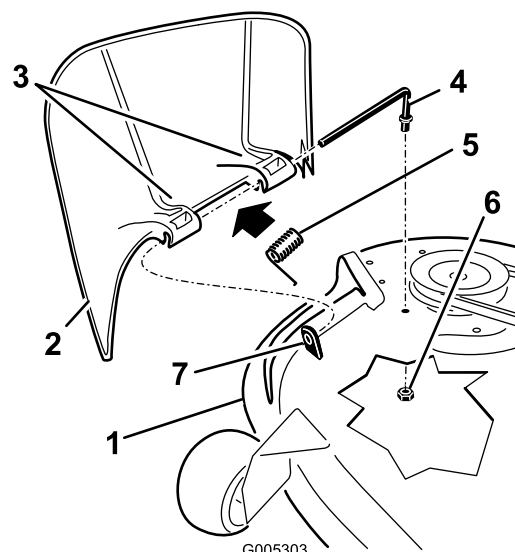

Figure 59
1. Locate items shown in Figure 59.
2. Remove the nut (9.5 mm; 3/8 inch) from the rod under the mower (Figure 59).
3. Slide the rod out of the short stand-off, spring, and grass deflector (Figure 59). Remove the damaged or worn grass deflector.
4. Replace the grass deflector (Figure 59).
6. Place the spring on the rod, with end wires down, and between the grass deflector brackets. Slide rod through second grass deflector bracket (Figure 59).
7. Insert rod at front of grass deflector into short stand-off on deck. Secure rear end of rod into the mower with a nut (9.5 mm; 3/8 inch) (Figure 59).